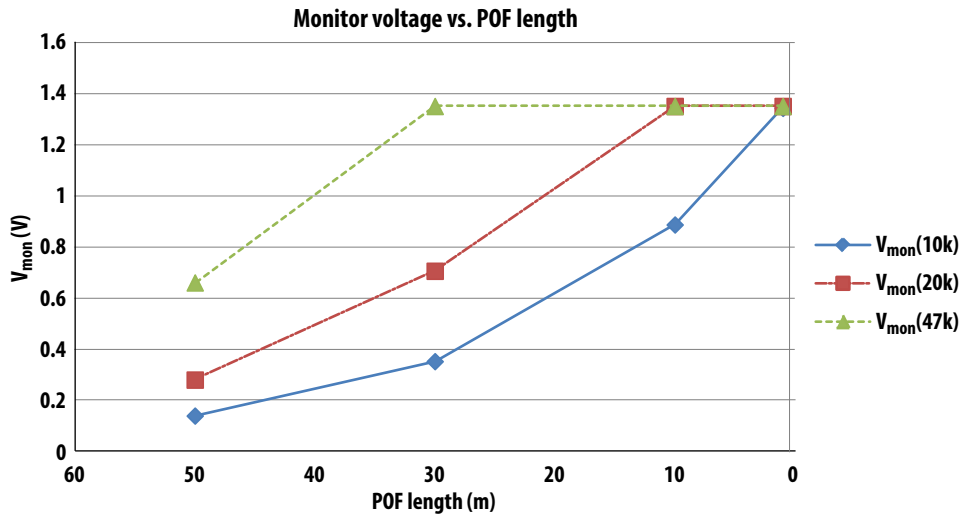

Figure 4. Typical  $V_{mon}$  vs. POF length
3. Choose a suitable resistor value such that the output monitor voltage is not saturated. Refer to Figure 4.
Figure 4 depicts the relationship between monitor voltage and POF length with 10 k $\Omega$ , 20 k $\Omega$  and 47 k $\Omega$ .